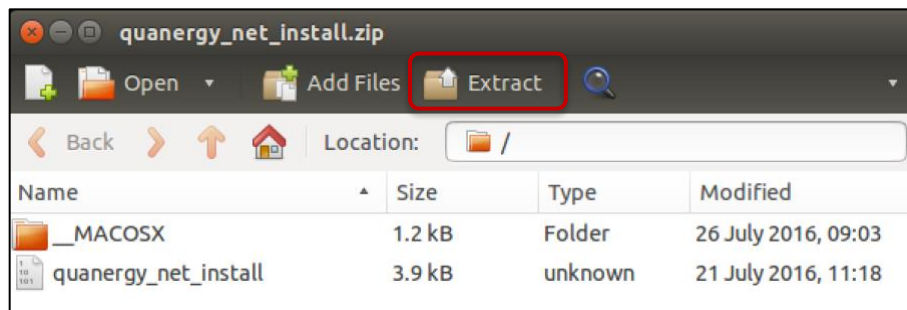

Figure 7. Ubuntu Computer: Extract DHCP Server Installation Script
4. In the `quanergy_net_install.zip` window that appears, click the **Extract** button. See Figure 7. Ubuntu Computer: Extract DHCP Server Installation Script.